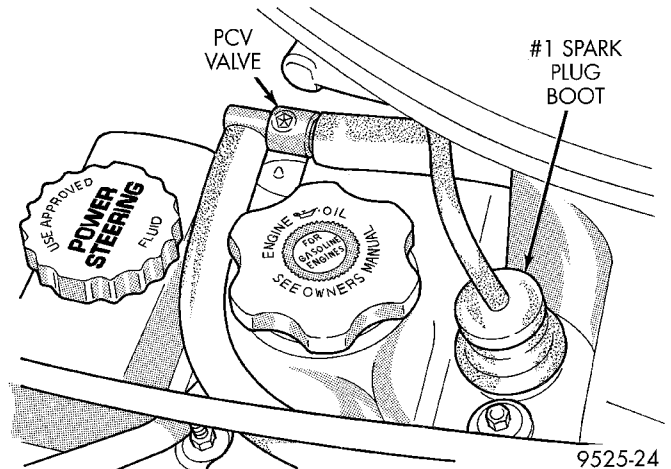

Fig. 58 PCV Valve
- (6) Check hose connections between the PCV valve, vacuum port - intake manifold and the oil separator (Fig. 58).